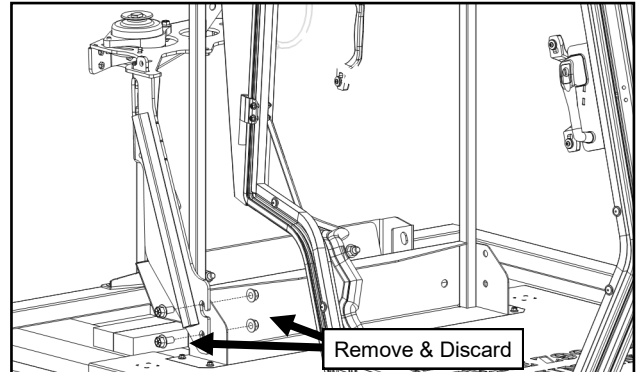

Fig. 1.42a (Compressor Mount to Pallet Frame Fasteners)
- 1.42** Remove and discard all hardware fastening the compressor mount to the rear pallet frame. Leaving the factory installed dynamo fastened to the compressor bracket, remove from pallet. See Figures 1.42a and 1.42b.